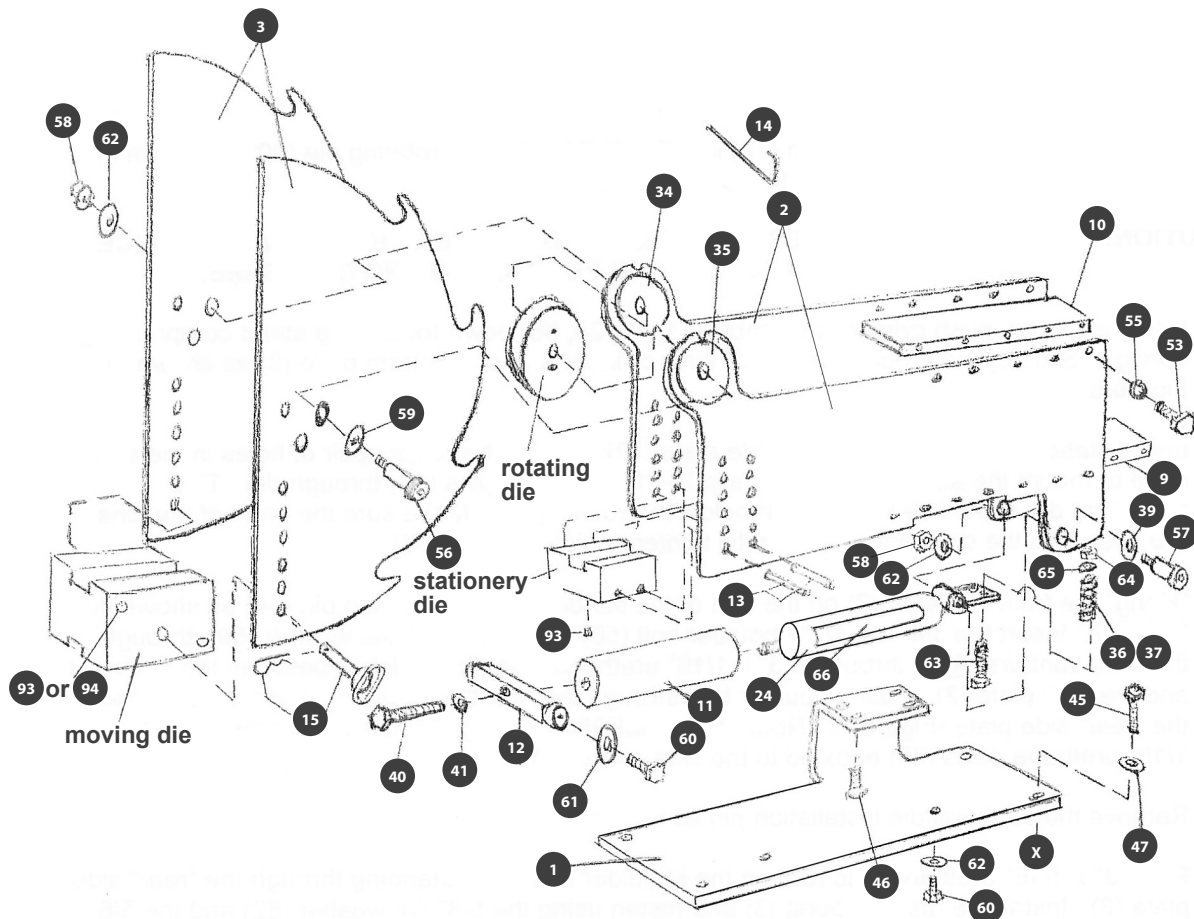
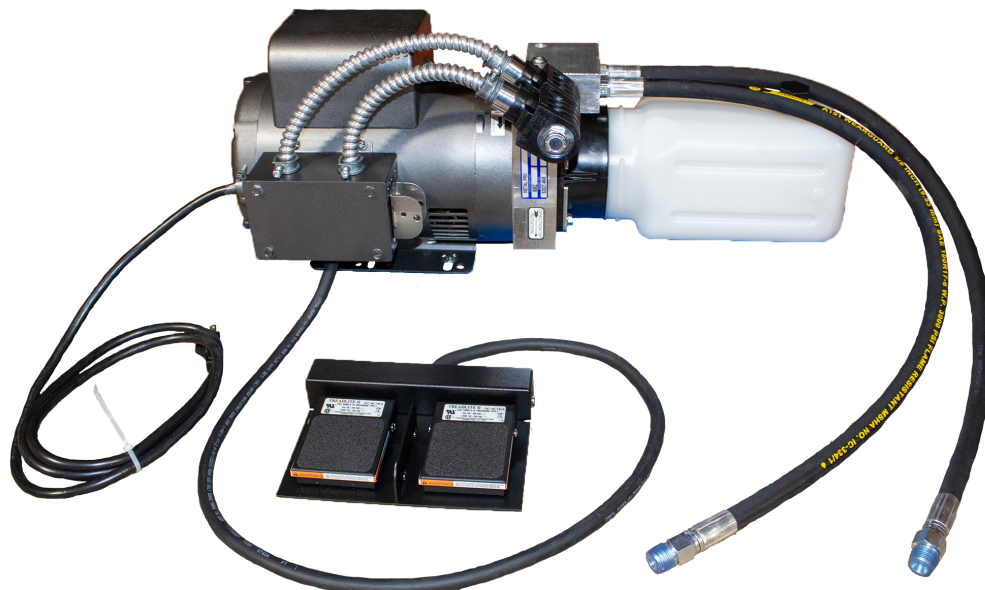

FIGURE 2:
FIGURE 3:
BENDER HEAD ASSEMBLY – Refer to Figure 2
- Step 2:** Before removing the lifting strap, install four $\frac{1}{2}$ -13 x $1\frac{3}{4}$ " hex head screws (45), $\frac{1}{2}$ " flat washers (47), and $\frac{1}{2}$ -13 lock nuts (48) hand tight.
- Step 3:** Position the front panel (4), (Figure 2, page 7) so the lip of the panel is flush against the bottom of the bender head assembly by first slipping the long edge of the panel inside of carriage bolts (42) of upper shelf (7). Make sure the holes in the bender head assembly and the slots in the lip of the front panel are aligned. Install two $\frac{3}{8}$ -16 x $\frac{5}{8}$ " hex head screws (60) and $\frac{3}{8}$ " flat washers (65) and tighten (Figure 3).